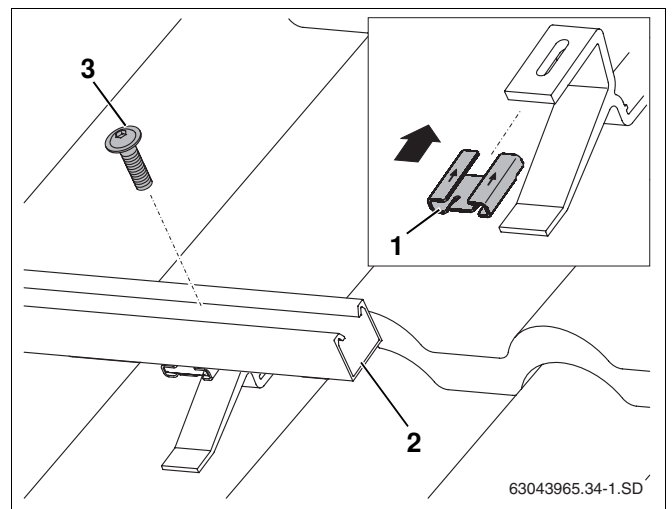

Fig. 32 Fastening profile rails to the roof hook
- Push sliding nut (Fig. 32, **Item 1**) onto the roof hook in the direction of the arrow.
- Place the lower profile rails (Fig. 32, **Item 2**) onto the roof hooks and loosely fasten M8 bolt (Fig. 32, **Item 3**) so that the profile rails can still be aligned.